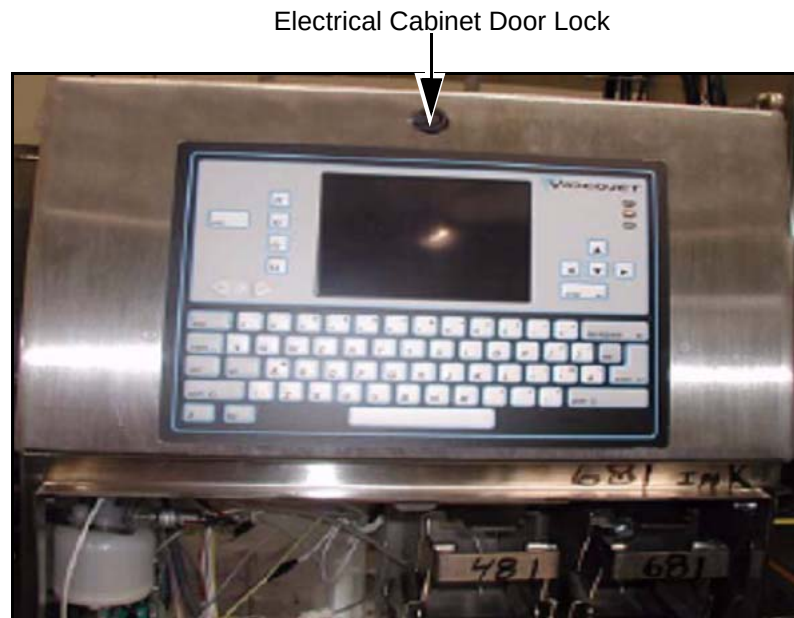

Figure 3-5: Electrical Cabinet
- 4 Locate the electrical cabinet door lock (Figure 3-5), insert the key in the lock and turn it counter-clockwise.